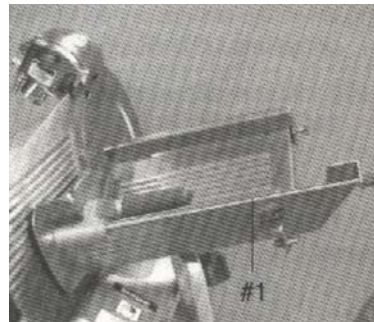

Fig. 19-2
- A. The end weight slide rod(#1) (Fig.19-2) should be lubricated as needed with a few drops of mineral oil.